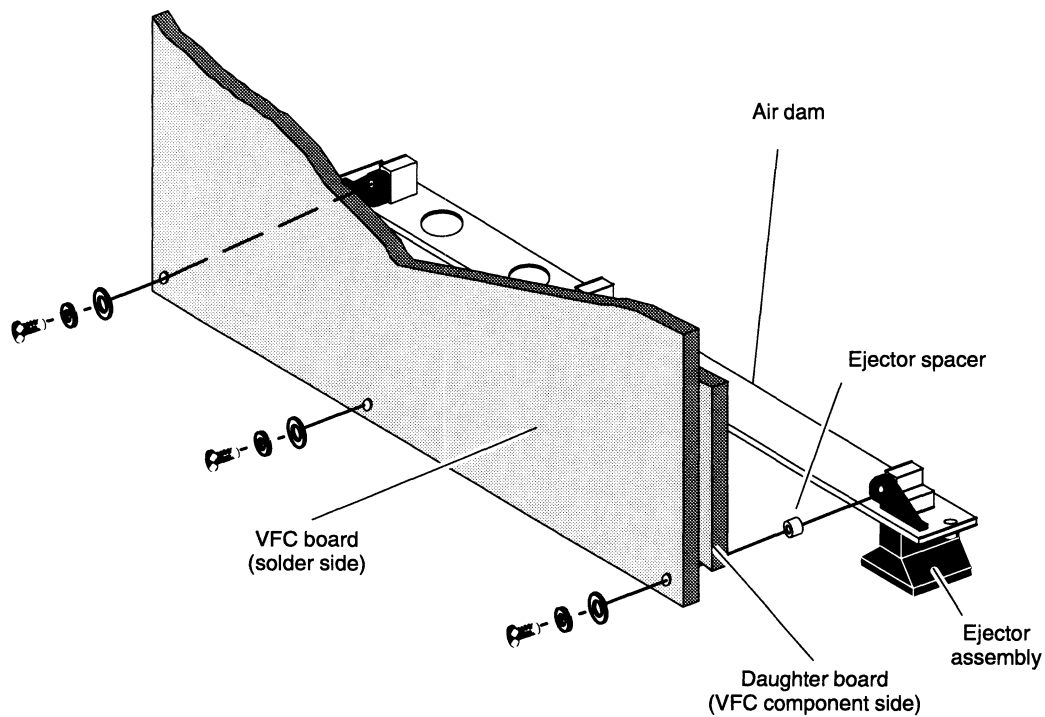

Figure D-19 VFC and 6U Air Dam Assembly
3. Place the original board *component side up* on an antistatic surface. Then, attach the air dam to the replacement controller board as shown in Figure D-19.